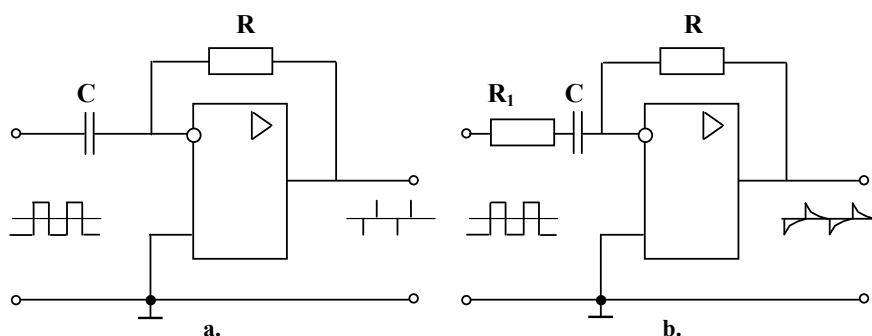

Fig. 2.39
**Differentiators.** Fig. 2.39,a illustrates the op amp *differentiator* or *D-regulator*. A differentiator is a circuit that performs a calculus operation called differentiation
One drawback of this circuit is its tendency to oscillate with a *flywheel effect*. To avoid this, a differentiator usually includes some resistance in series with the capacitor, as shown in Fig. 2.39,b or across the capacitor. A typical value of this added resistance is between  $0,01 R$  and  $0,1 R$ . With the resistor, the closed-loop voltage gain is between 10 and 100. The effect is to limit the gain at higher frequencies, where the oscillation problem arises. Such a circuit is called a *PD-regulator* and has  $K = R / R_1$  and two time constants:  $T_1 = RC$  and  $T_2 = R_1 C$ .